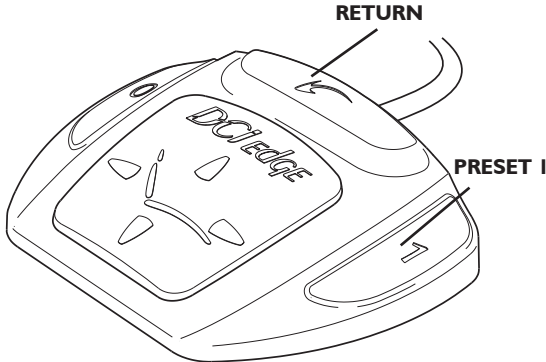

Figure 2. Setting soft limits
- 2 Place the chair into soft limits mode by pressing and holding the “1” and “RETURN” buttons simultaneously, on either a keypad or Foot Switch (see Figure 2), until three beeps are heard.